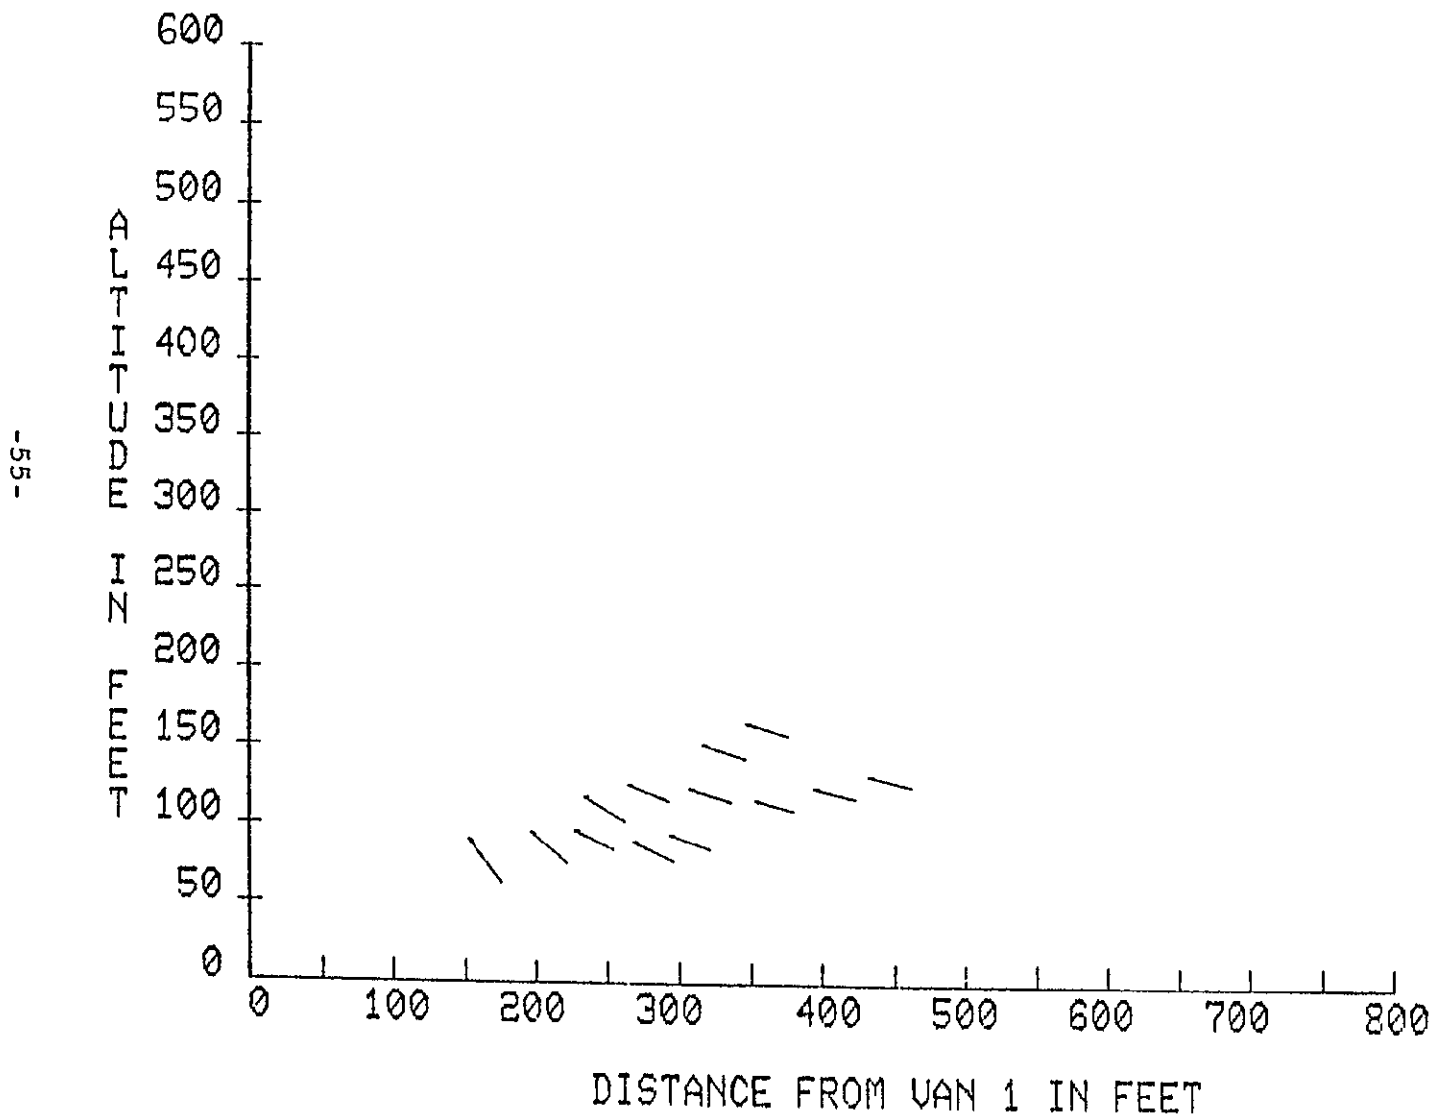

Figure 8-5
- o Two-Dimensional Velocity Flow Field (Display 33) (Figure 8-5):